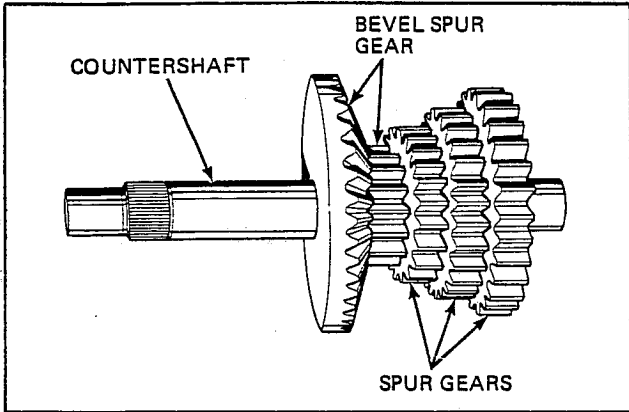
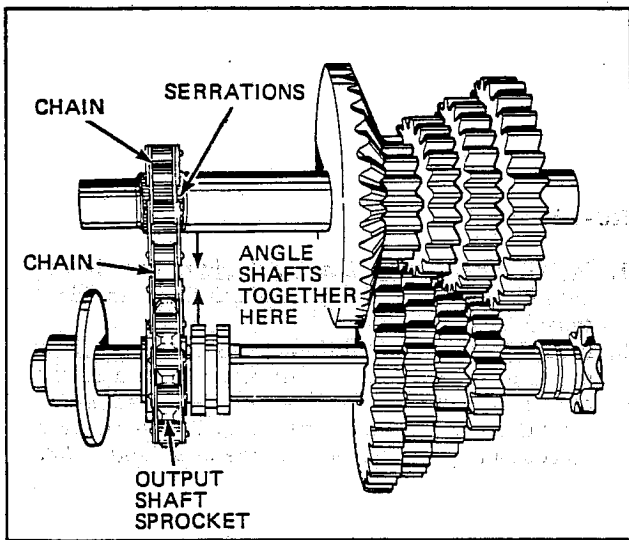
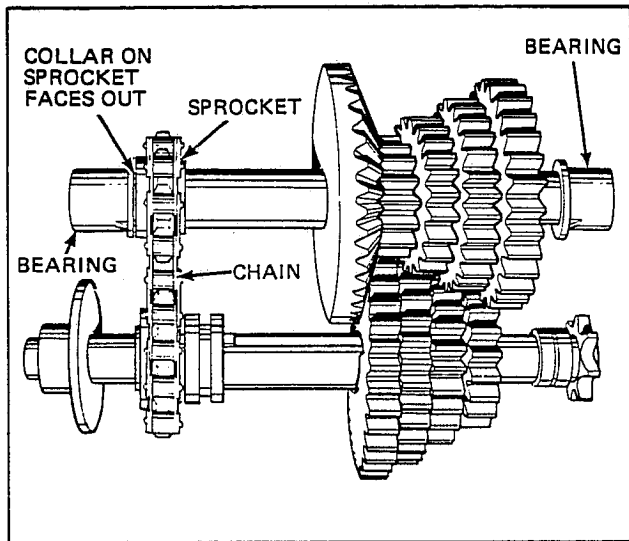

Figure 2-30
Figure 2-31
Figure 2-32
3. Install bevel spur gear and smallest to largest mating spur gears to splined end of countershaft. See Figure 2-30. Install chain over two shafts registering chain on output shaft sprocket and in-line with serration on countershaft. See Figure 2-31. Slip sprocket onto serrations and install chain, thrust washers and remaining bearings to shafts. See Figure 2-32 and 2-33.